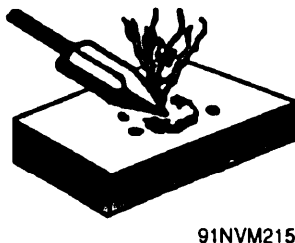

Figure 9-25.—Tinning a copper (solder placed on a cake of sal ammoniac).
6. Rub each filed side of the bit back and forth across a cake of sal ammoniac, as shown in figure 9-25.